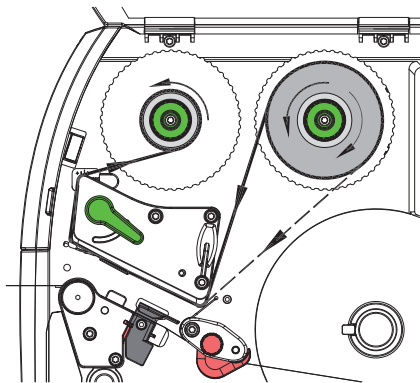

Figure 17 Transfer ribbon feed path
4. Hold transfer ribbon roll (1) firmly and turn knob on ribbon supply hub (3) counterclockwise until the transfer ribbon roll is secured.
5. Slide suitable transfer ribbon core (4) onto the transfer ribbon take-up hub (5) and secure it in the same way.
6. Guide transfer ribbon through the print unit as shown in Figure 17.
7. Secure starting end of transfer ribbon to the transfer ribbon core (4) with adhesive tape. Ensure counterclockwise rotation direction of the transfer ribbon take-up hub here.
8. Turn transfer ribbon take-up hub (5) counterclockwise to smooth out the feed path of the transfer ribbon.
9. Turn lever (6) clockwise to lock the printhead.